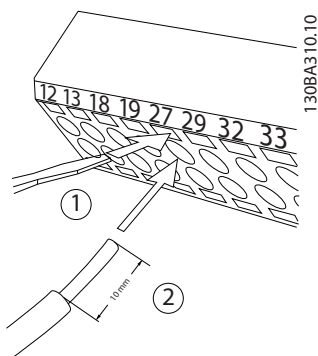

Figure 2.17 Connecting Control Wiring
1. Open the contact by inserting a small screwdriver into the slot above or below the contact, as shown in Figure 2.17.